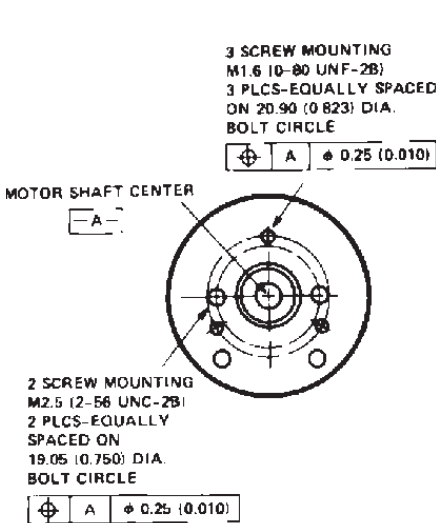
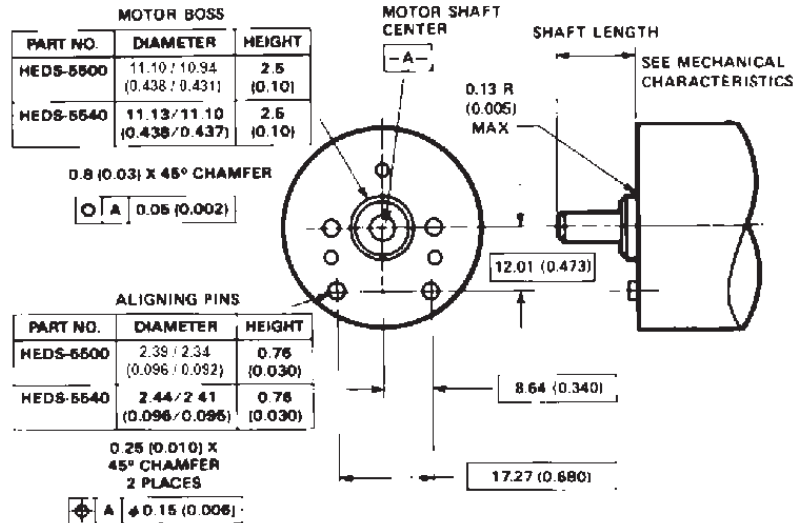

Figure 2. Mounting Holes.
Figure 3. Optional Mounting Aids.
3. The HEDS-5540 and 5640 must be aligned using the aligning pins as specified in Figure 3, or using the alignment tool as shown in "Encoder Mounting and Assembly". See also "Mounting Considerations."
The HEDS-5540 and 5640 three channel encoders and the HEDM Series high resolution encoders must be aligned using the aligning pins as specified in Figure 3, or using the HEDS-8910 Alignment Tool as shown in Encoder Mounting and Assembly.
The use of aligning pins or alignment tool is recommended but not required to mount the HEDS-5500 and 5600. If these two channel encoders are attached to a motor with the screw sizes and mounting tolerances specified in the mechanical characteristics section without any additional mounting bosses, the encoder output errors will be within the maximums specified in the encoding characteristics section. The HEDS-5500 and 5540 can be mounted to a motor using either the two screw or three screw mounting option as shown in Figure 2. The optional aligning pins shown in Figure 3 can be used with either mounting option. The HEDS-5600, 5640, and HEDM-5600 have external mounting ears which may be used for mounting to larger motor base plates. Figure 4 shows the necessary mounting holes with optional aligning pins and motor boss.